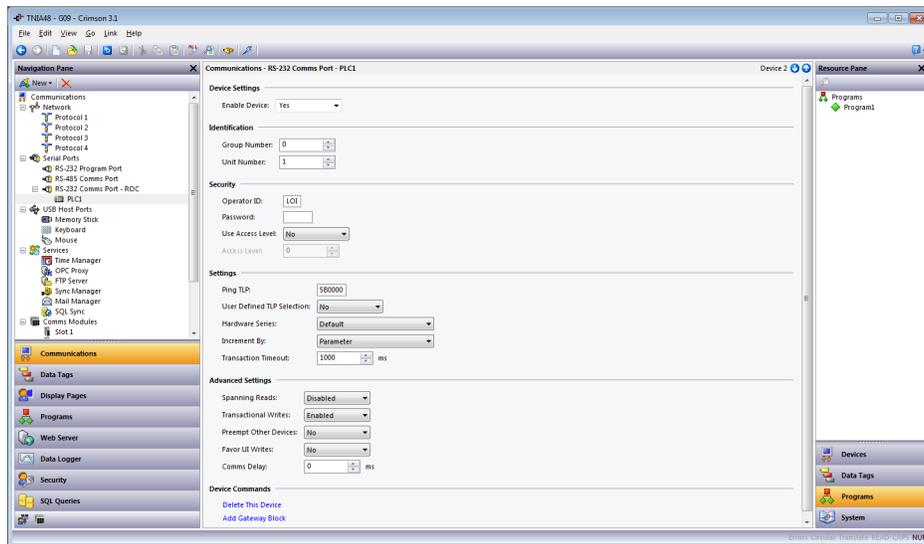

Figure 5.
9. Navigate to the Resource Pane and click on the device below the Comms Port, *PLC1* in this example; the Communications - RS-232 Comms Port -PLC1 popup shown in Figure 5 appears.